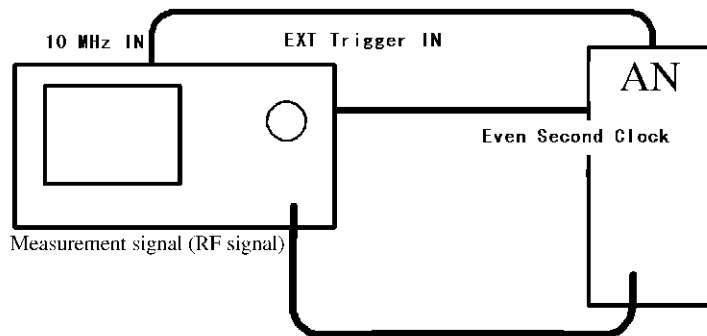

Figure 2-14 Connection for Pilot/MAC Channel Power Measurements of the Access Network Signals
1. Connect the equipment as shown in Figure 2-14.